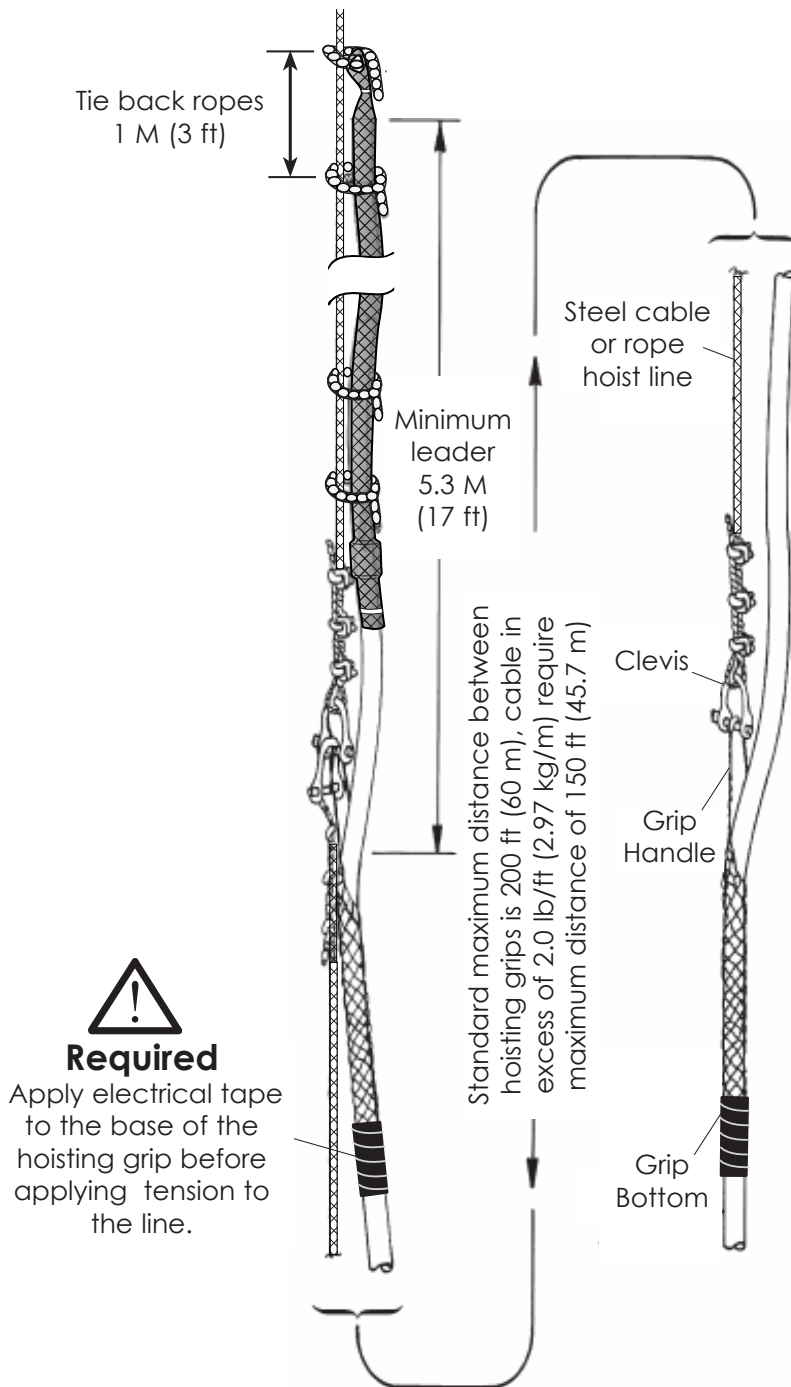

Figure 1
Place the Hoisting/Support grip(s) at the proper location on the cable as shown in Figure 1. Allow a sufficient length of cable leader to reach the junction point input when cable hoisting and attachment of the grip handle to the support structure is completed.
- 7** Attach the hoist line to the grip as shown in Figure 1. Tie the cable leader to the hoist line so that the leader does not dangle. Apply tension slowly to the hoist line to allow the hoisting grip to tighten uniformly on the cable.
- 6a** Attach the hoist line to the grip as shown in Figure 1. Tie the cable leader to the hoist line so that the leader does not dangle. Apply tension slowly to the hoist line to allow the hoisting grip to tighten uniformly on the cable.